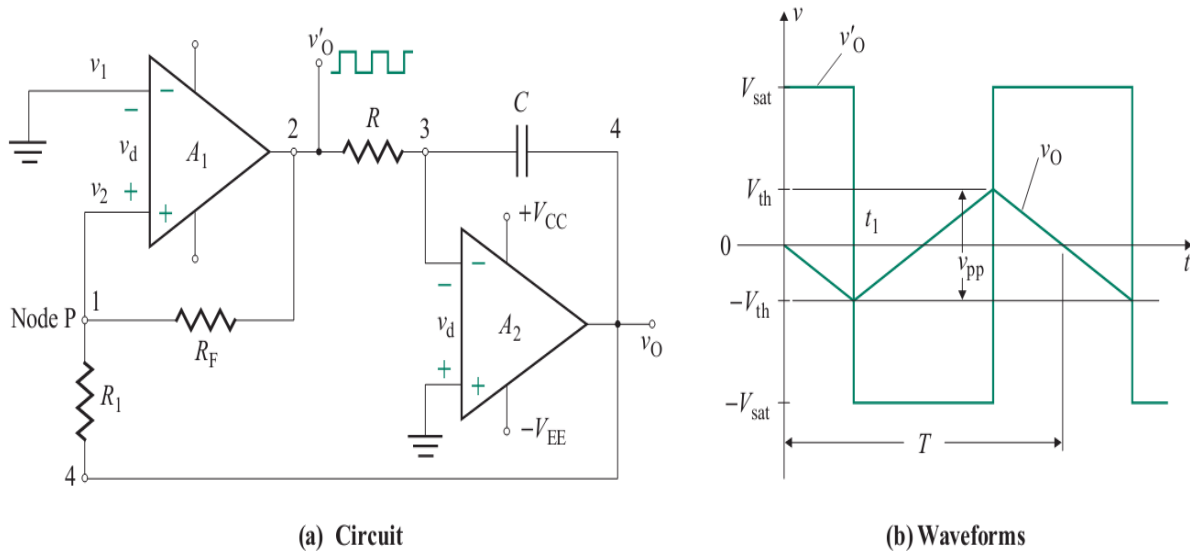

Figure 11
1. Construct the circuit of Fig. 11 (a) using op-amp.